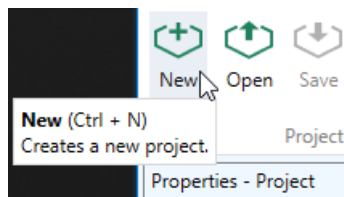

Figure 3.2 Tool tip for New Project menu command showing the shortcut Ctrl+N.
- Many functions also have dedicated shortcuts. For example, a new project can be started also by pressing Ctrl and N simultaneously. These specific shortcuts are typically displayed in the corresponding tool tip of the button or control (see Figure 3.2).